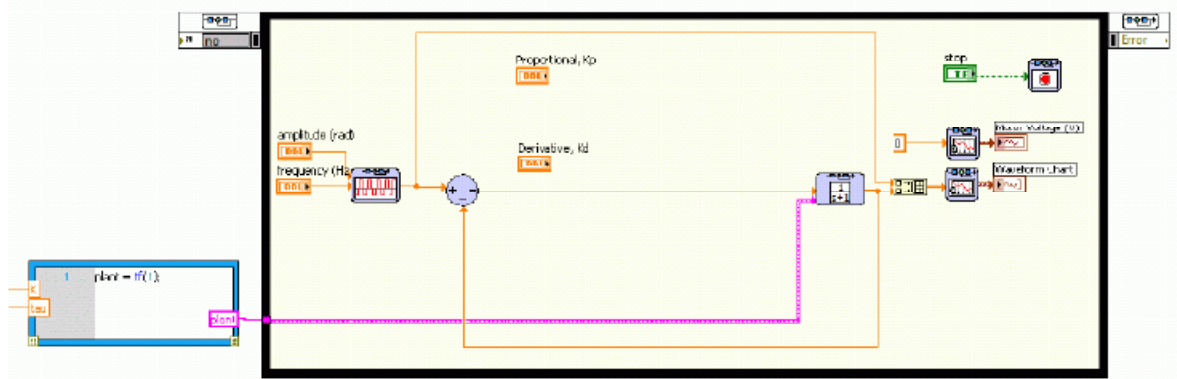

Figure 4.9: Incomplete block diagram in SRV02 PD Control VI
2. As shown in Figure 4.9, the block diagram is incomplete.